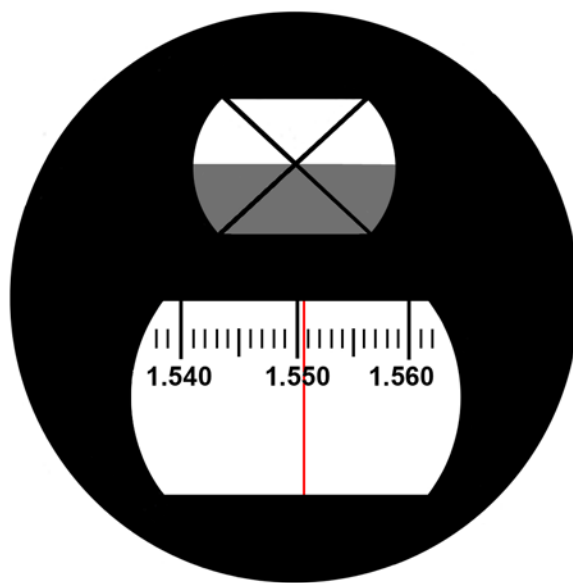

Fig. 1
3. Look through the eyepiece of the telescope, adjust the illumination mirror and rotate the prism knob until the boundary between a dark field and a light field is near the center of the field of view (Fig.1 Top window). The boundary may appear fuzzy and colored. Rotate the compensation knob to eliminate the dispersion, resulting in a sharp black-white border line between the dark and bright fields. Rotate the prism knob until the dark/light boundary is exactly at the intersection of the cross hairs as shown in the top window of Fig. 1.
4. In the lower reading window (Fig. 1), read the refractive index to the 4th decimal place. For example, the above measurement gives a reading 1.5507.